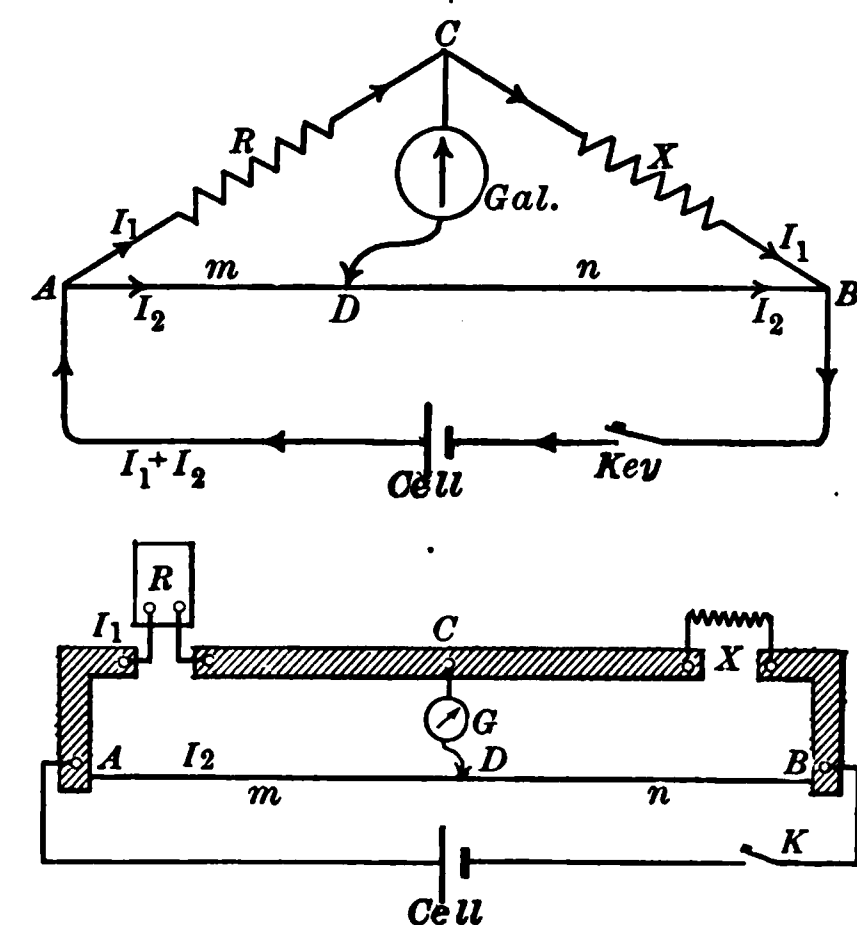

FIG. 260. — Wheatstone bridge to balance resistances.
300. Measurement of resistance by Wheatstone bridge. A more accurate method of measuring resistance is the **Wheatstone bridge**, which is a machine for balancing resistances. It consists essentially of a loop of four resistances, R , X , m , and n , arranged as in figure 260. When the key (K) is closed, the current from the cell flows into the loop at A , and there divides so that part (I_1) goes through AC and part (I_2) through AD . A sensitive galvanometer is con-
4. In a slide-wire Wheatstone bridge, the known resistance is 12 ohms, and the balance is obtained when AD (Fig. 260) is 42.5 centimeters. Compute the value of the unknown resistance.